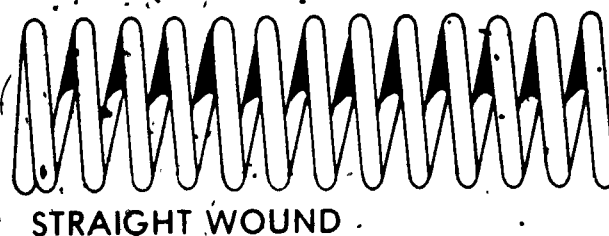

FIGURE 3
- 1. Fork spring (Figures 3 and 4)